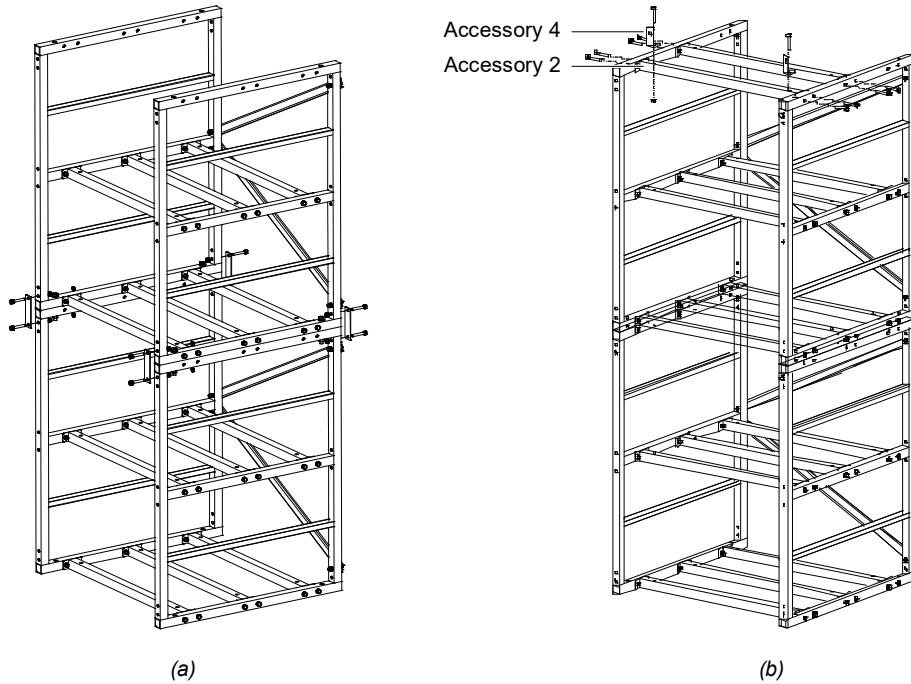

Figure 4 Installation procedure of accessory 2, accessory 4 and accessory 5
- 2) Install accessory 5 according to Figure 4 (a).
- 3) Install accessory 2 and accessory 4 according to Figure 4 (b).